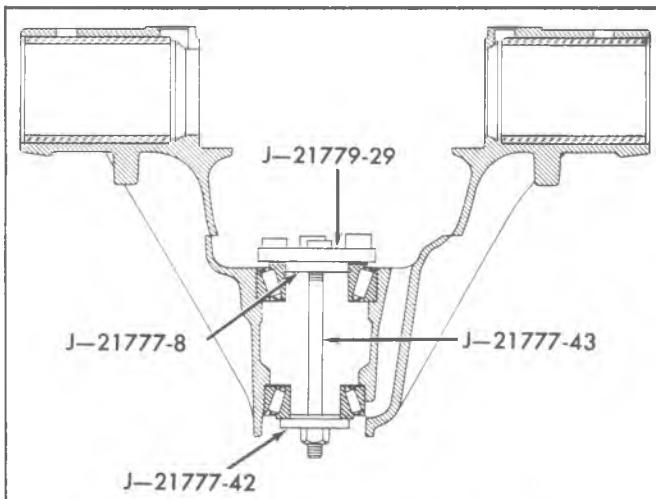

Fig. 18B—Gauge Plate Installed—Passenger Car
c. For all models, insert stud through rear bearing and pilot J-21777-35, and through front bearing and pilot J-21777-42. Install the hex nut until snug and rotate the bearings to make sure they are properly seated. See figures 18B and 19B for illustration of proper positioning.